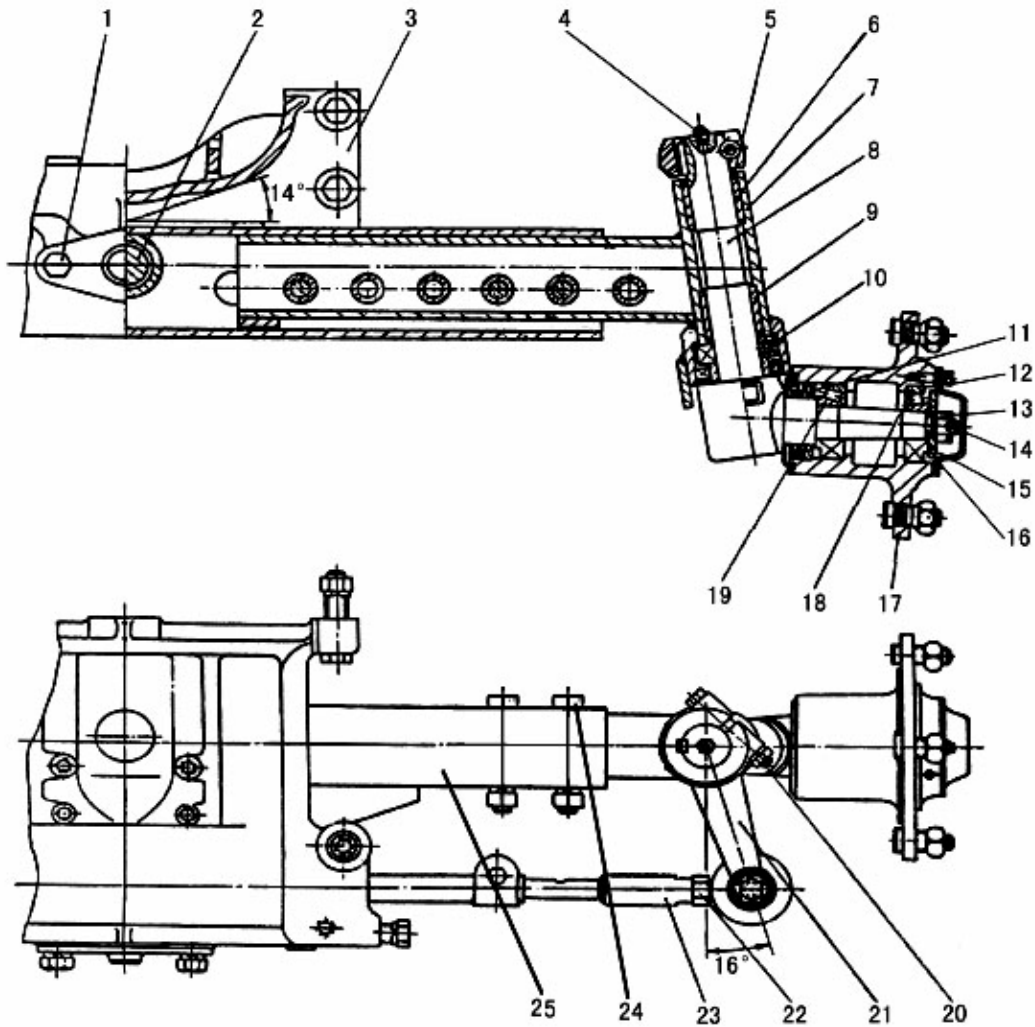

Fig.6-13 2WD fore axle assembly
(1) Structure (See Fig. 6-13):